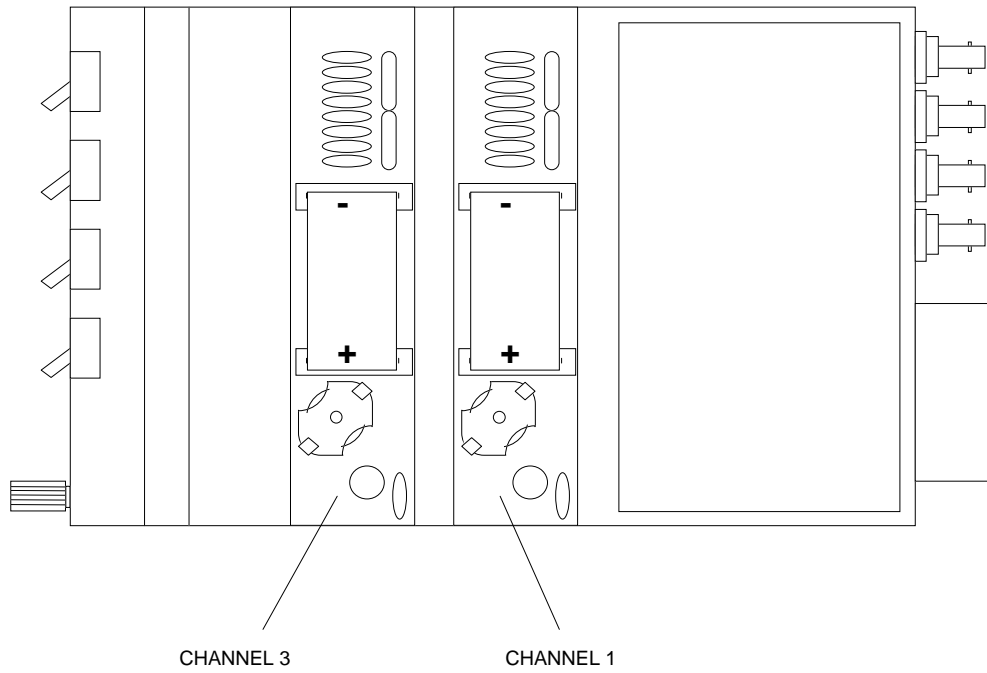
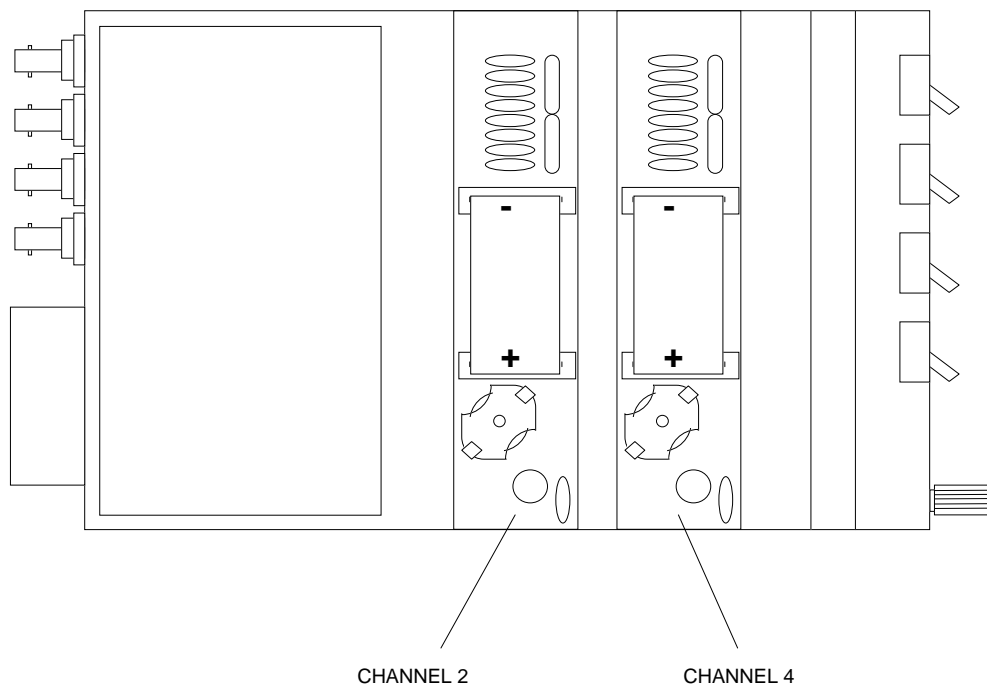

Fig. 2.3: Mod. N472 components locations (left side)
Fig. 2.4: Mod. N472 components locations (right side)
2. Lay down the unit, NIM crate connector on the right and the front panel on the left, and refer to Fig. 2.3. The High-Voltage block houses two of the four multipliers of the channels (CH3 and CH1) and bears a "High-Voltage Danger" label. The cover of each multiplier is fixed to the base through two screws; remove the screws and the cover. The multiplier will appear as shown in Fig. 2.3 (for the polarity selection of channels CH2 and CH4 lay down the unit, NIM crate connector on the left and the front panel on the right as in Fig. 2.4, and follow the instructions hereafter). The multiplier base is accessible to the User. The front panel "POLARITY" LEDs indicate the correct polarity for each channel. Remove the multiplier base, rotate it by 180° and insert it back in its position.